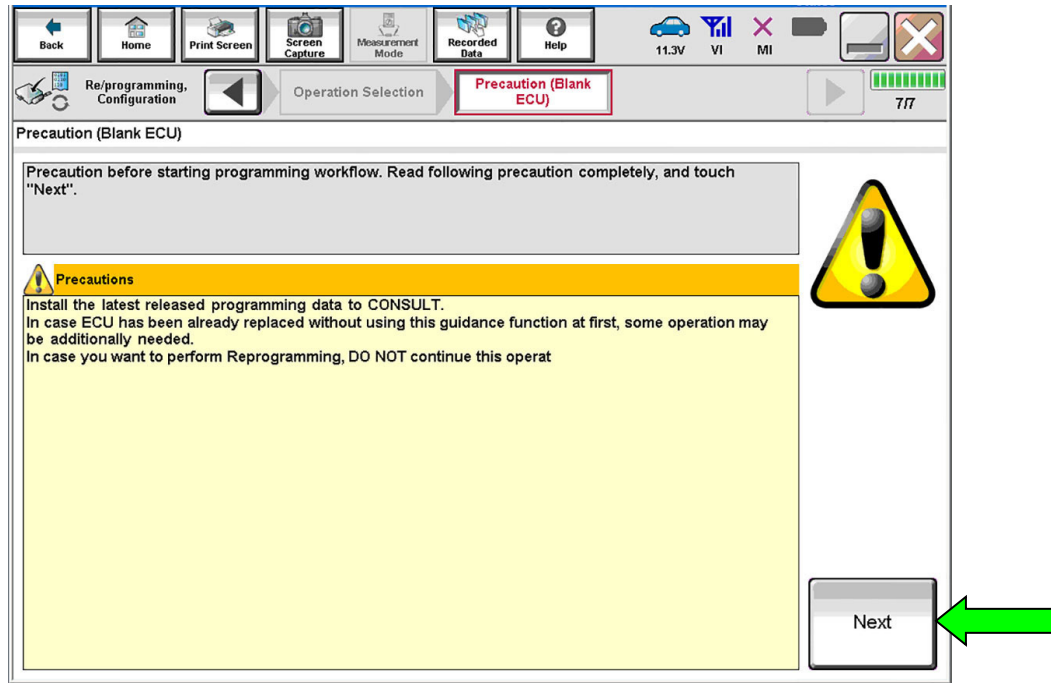

Figure 9
- If the screen in Figure 9 appears, select **Next**.